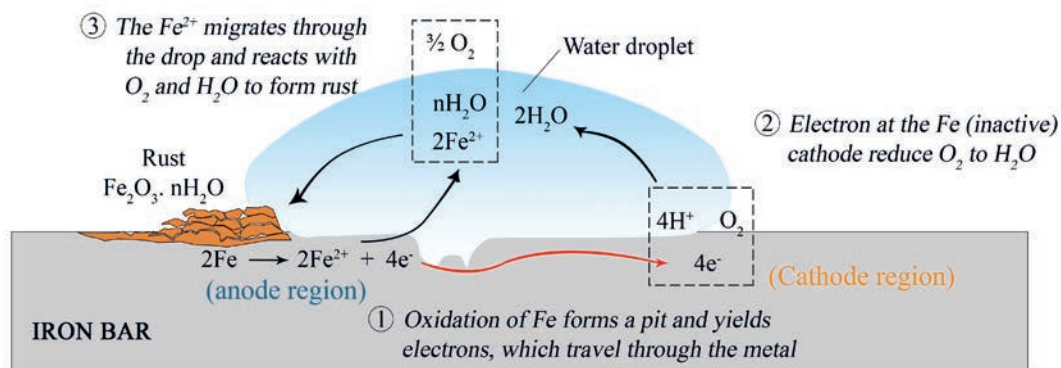

Figure 2.17: A small area of the surface, showing the steps in the corrosion process.
1. **The loss of iron.** A strain or dent in contact with water is usually the site of iron loss. This site is called an anodic region because of the following half-reaction (**Figure 2.17**):